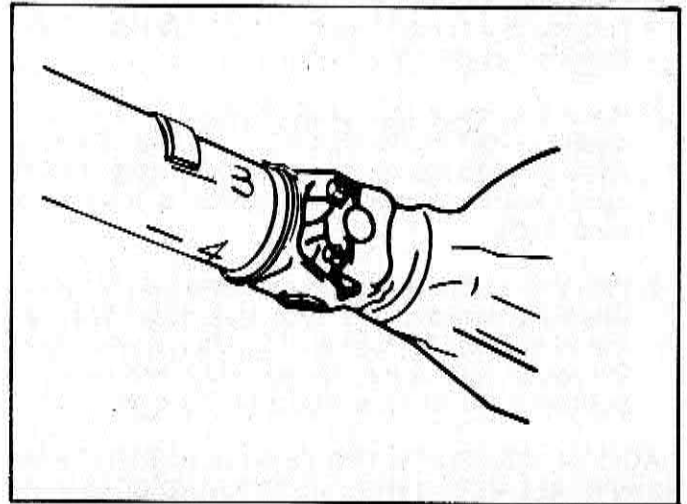
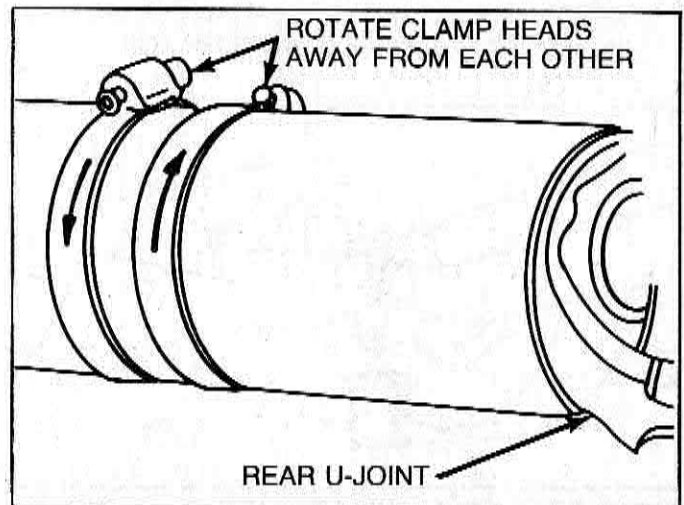
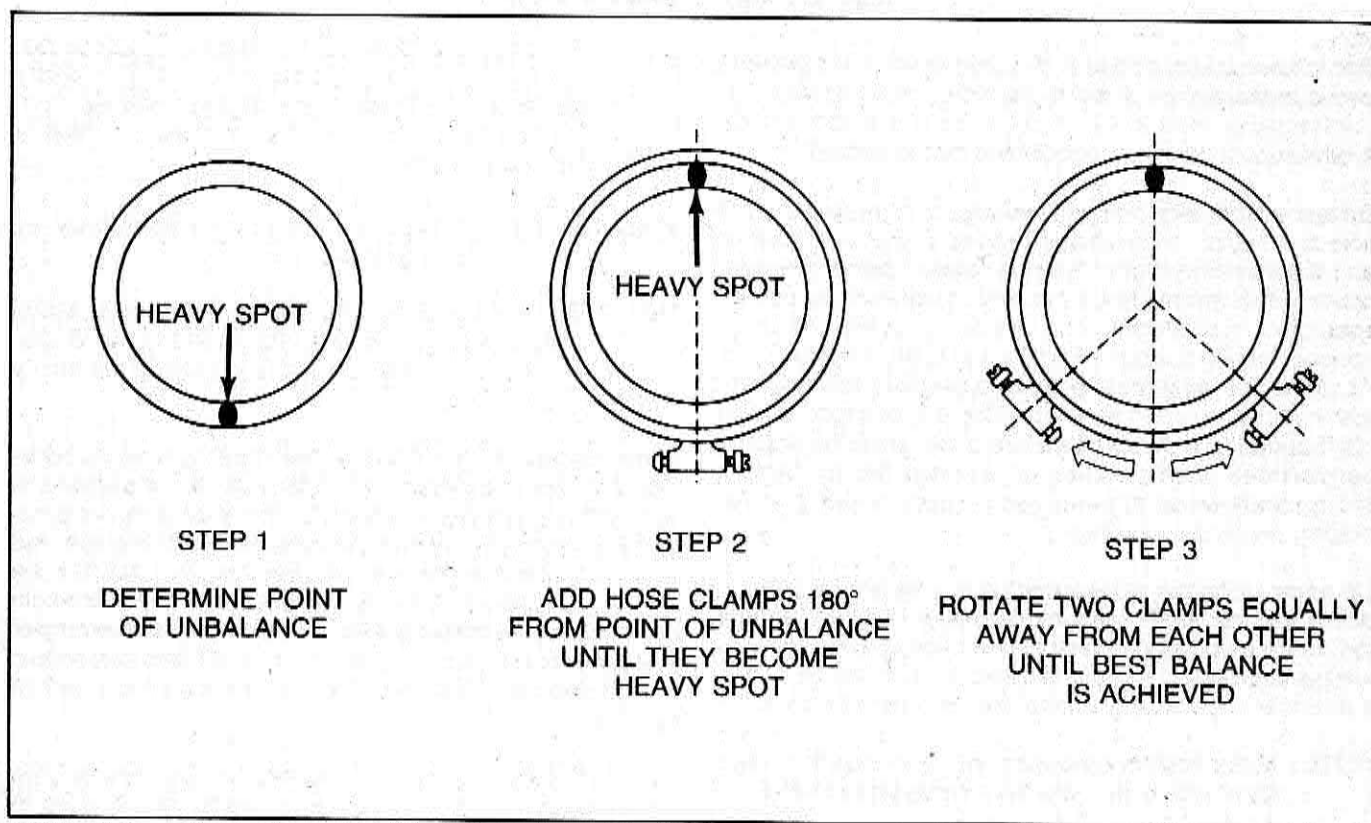

Figure 4-5 — Chalk Reference Marks on Propeller Shaft
Figure 4-6 — Balance Hose Clamps In Position
Figure 4-8 — Hose Clamp Positions to Balance Shaft
The following drive shaft balance procedure can be applied to a motor home and the procedure can be performed on the shop floor. **The wheels should be blocked and both axle shafts should be removed to prevent any possibility of spider gear spin-out during the balancing process.** The procedure requires the service technician to place four chalk marks (numbers 1 through 4) on the propeller shaft. (See Figure 4-5 and Figure 4-6.)
Run the engine and drive shaft speed up to the point vibration is felt and note the speed showing on the speedometer. Also, note the "intensity" of the vibration. **STOP THE ENGINE AND DRIVE SHAFT.** Install a hose clamp and position the screw pointing toward one of the chalk reference marks. (See Figures 4-5 and 4-6.) Retest for vibration and note any gain or loss in vibration disturbance. A single hose clamp will *usually* increase or reduce the vehicle vibration by feel. The screw portion of the hose clamp is the weight being moved around the shaft.
2. Mark and number the drive shaft at four points 90 degrees apart around each shaft just forward of the balance weights. (See Figure 4-5.)
6. Install two hose clamps on the drive shaft as close to the rear of the drive shaft as possible, as shown in Figure 4-6. Position both screw clamp heads 180 degrees from the heavy point of the shaft as shown by the strobe light. (See Figure 4-8.) Tighten clamps.
8. Rotate two of the hose clamps equally away from each other toward the top (one each way from the original position as shown in Figure 4-8) in small amounts until you find the best possible balanced condition. In some cases, it may be necessary to use one clamp or possibly as many as three clamps to obtain a proper balance.